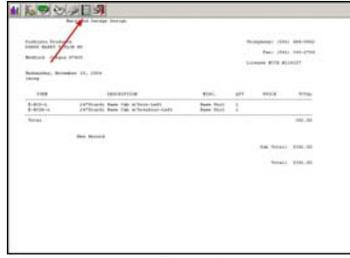
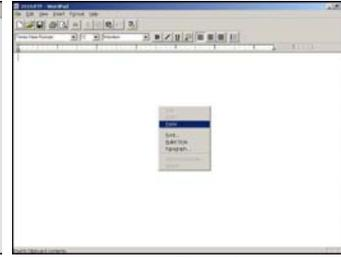

Fig. 4.5
Fig. 4.6
3. With the current program, you can easily insert your bid into your Presentation Document as well as pictures. Simply press the notebook icon, as shown in Fig. 4.5, when viewing your bid, and then paste by right-clicking somewhere in the document and choosing the Paste option (see Fig. 4.6).